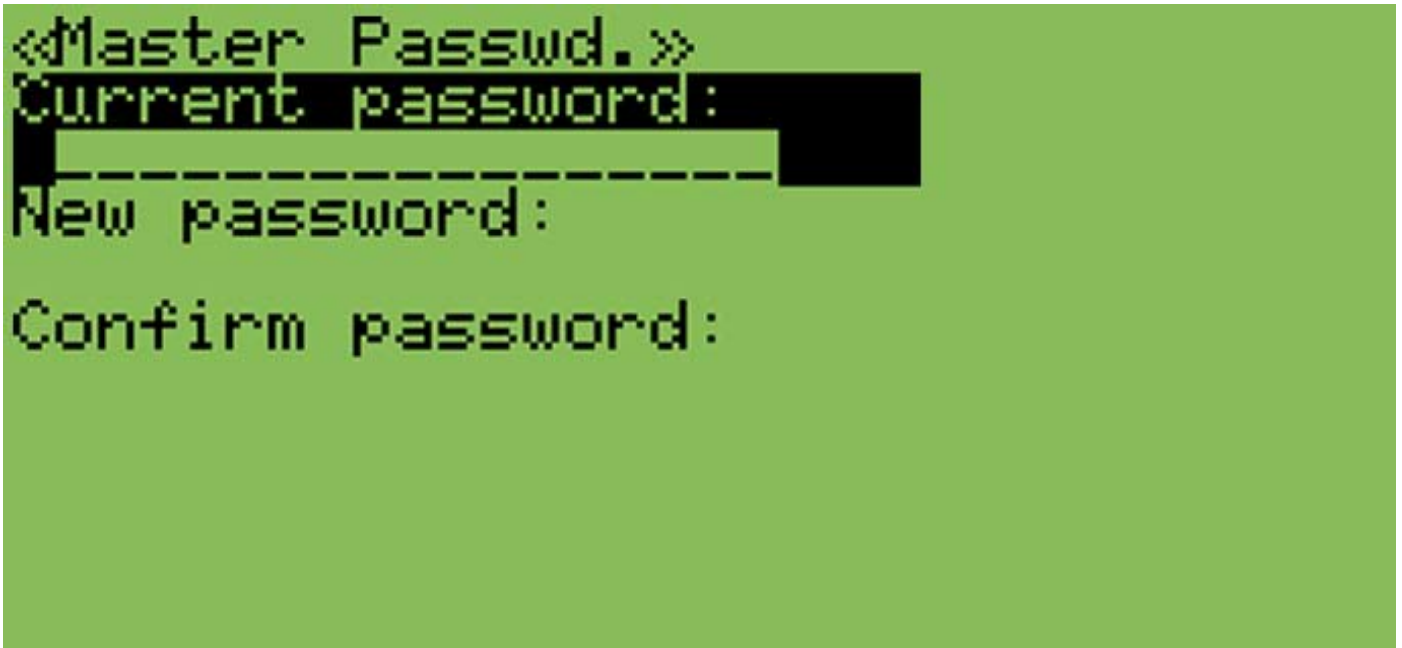

Fig. 42 - Setting a new master password
- 2 - Press 3 key to enter “Operation” menu. Press 1 to access the “Master Passwd.” section; (fig. 42);